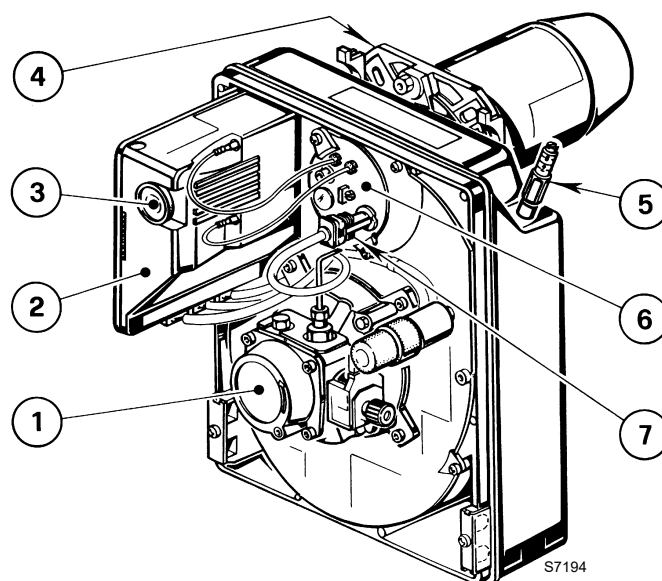

Fig. 1
C Lock out is indicated by a lamp on the flame control (3, Fig. 1, on page 1).
- Clean the flame sensor, (7, Fig. 1, on page 1).